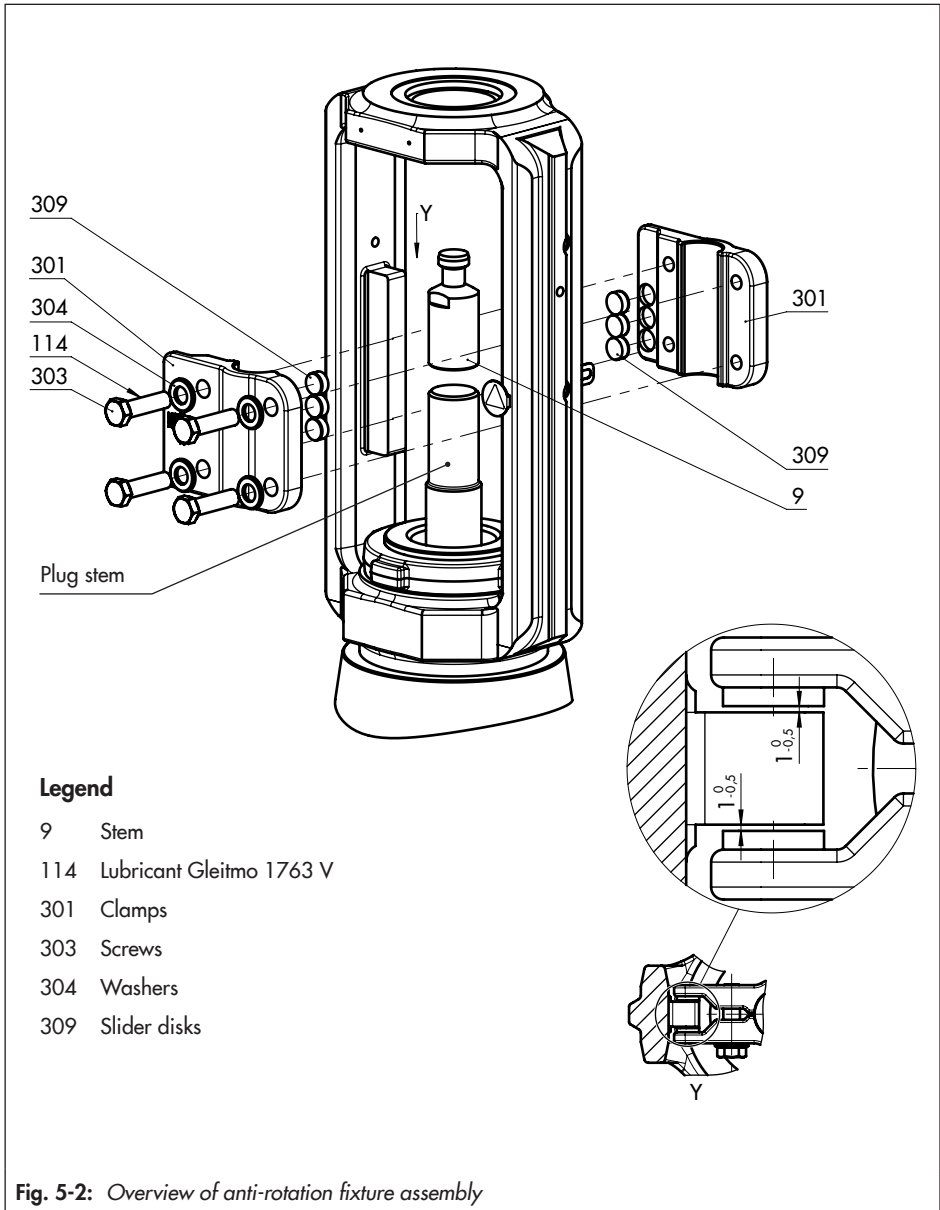

Fig. 5-2: Overview of anti-rotation fixture assembly
See Fig. 5-1 and Fig. 5-2
- There is a nominal gap between 0.5 and 1 mm between the slider disks and their seating surface on the yoke on each side (see detailed view Y in Fig. 5-2).